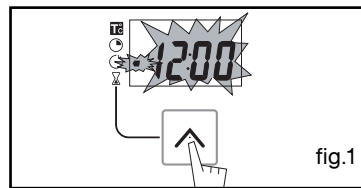

fig.1
The time display flashes to indicate that you can now adjust the setting (fig. 1).
- Press the "⌚" TOUCH CONTROL (fig.1) until the timer symbol begins flashing